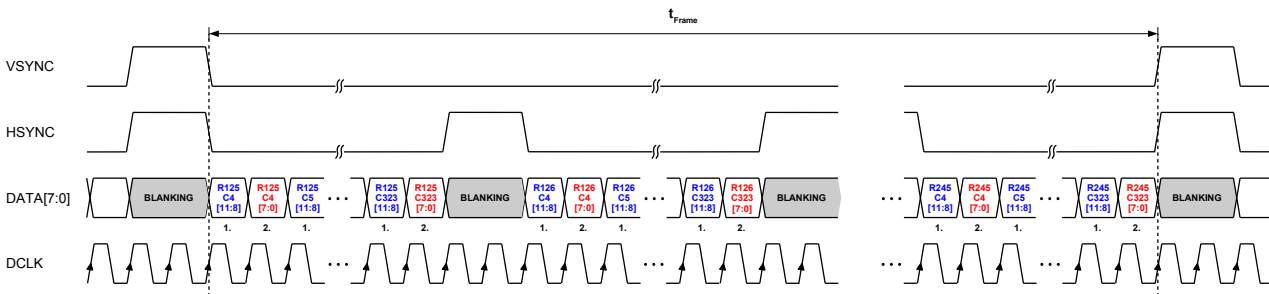

Figure 32: **msb/lsb** split mode
- msb/lb split mode: Transfers 12 bit pixel data with MSByte leading and LSByte trailing with 2x DCLK. Refer to Table 14 and Figure 32.